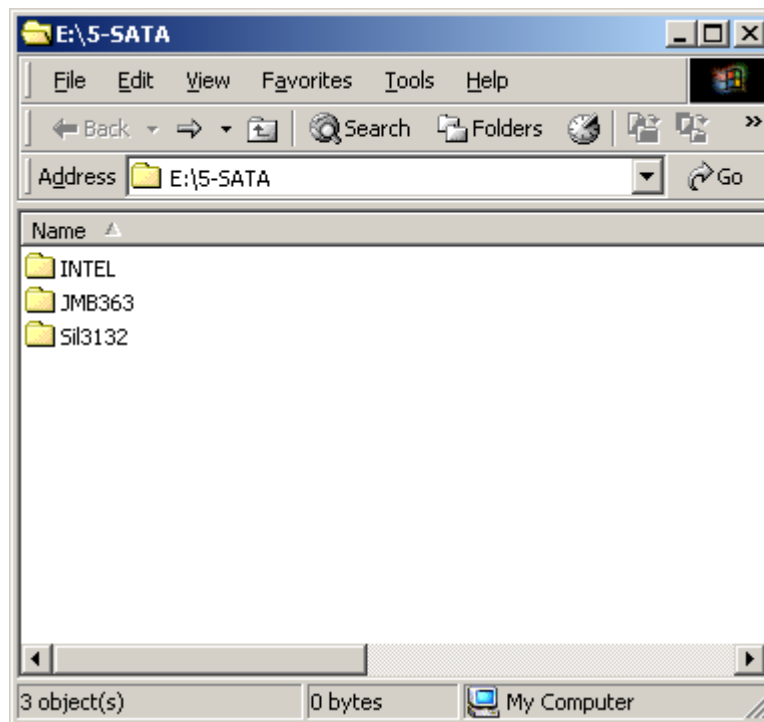

Figure 7-35: SATA RAID Driver Installation Program
Step 2: A new window opens (**Figure 7-35**).